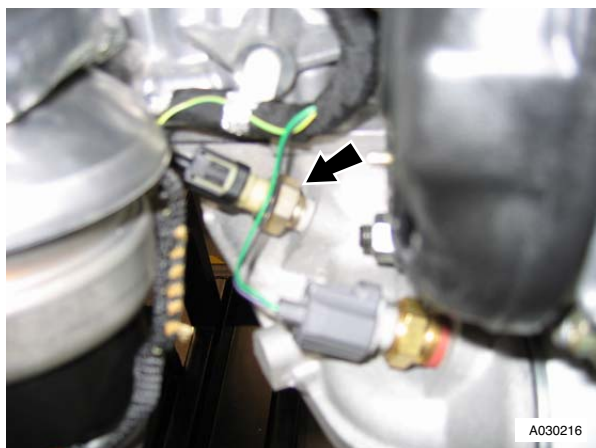

Figure 6
13. Disconnect multiplug from oil pressure sensor (see Figure 6).